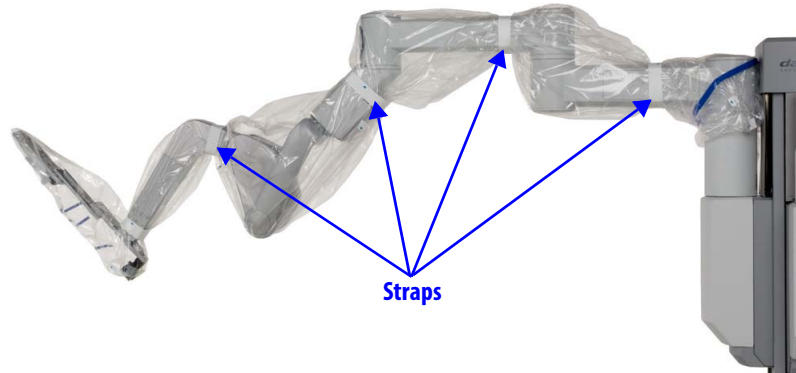

Figure 6.13 Securing the drape with the drape straps
8. Wrap all white drape straps snugly around the instrument arm, and attach each strap to itself (Figure 6.13). You may wish to confirm that the arm moves without tearing the drapes or straps.